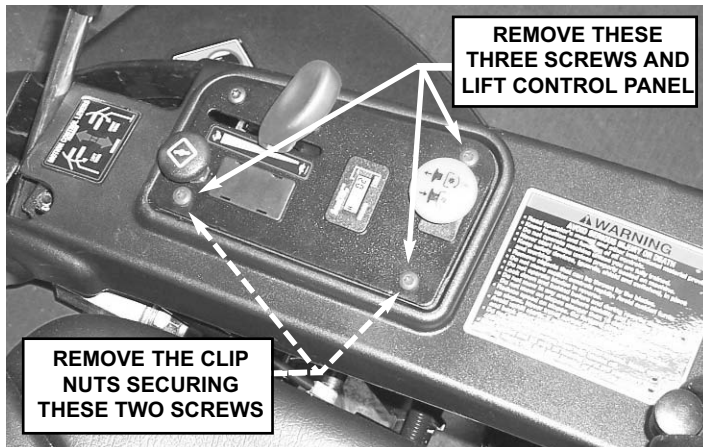

FIGURE 1
**STEP 1:** Remove the three torx screws securing the control panel to the top of the right fender. Lifting the control panel slightly, remove the two inside clip nuts from the fender used to secure the two inside torx screws. See Figure 1.